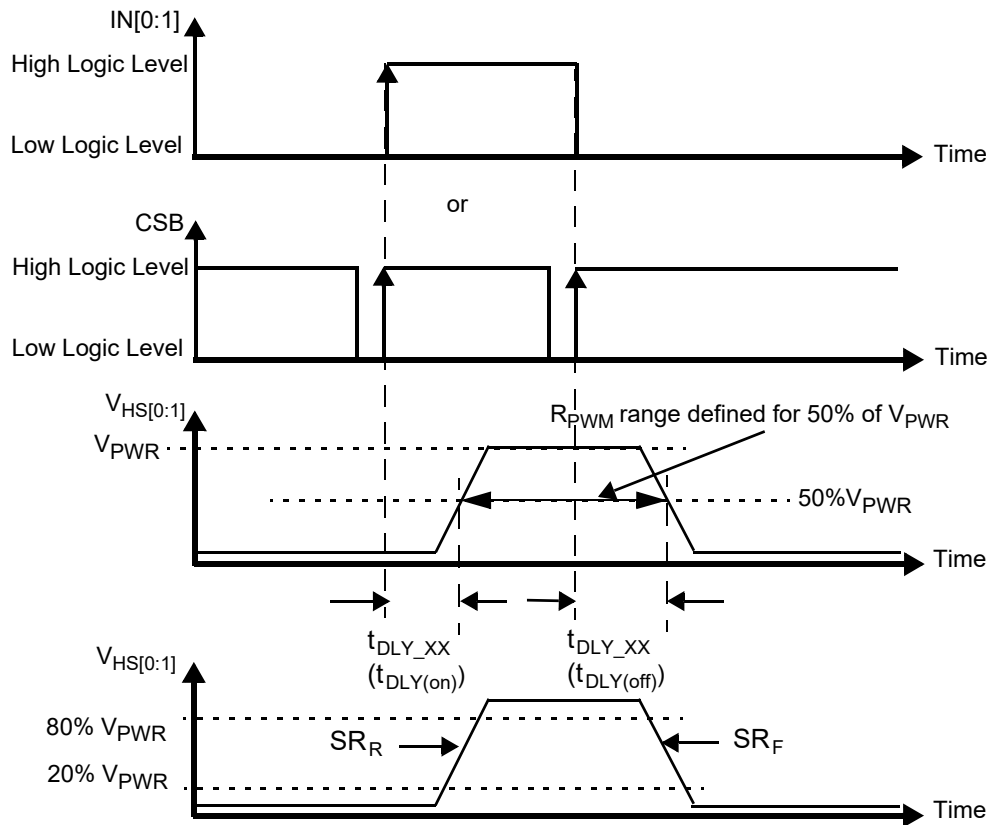
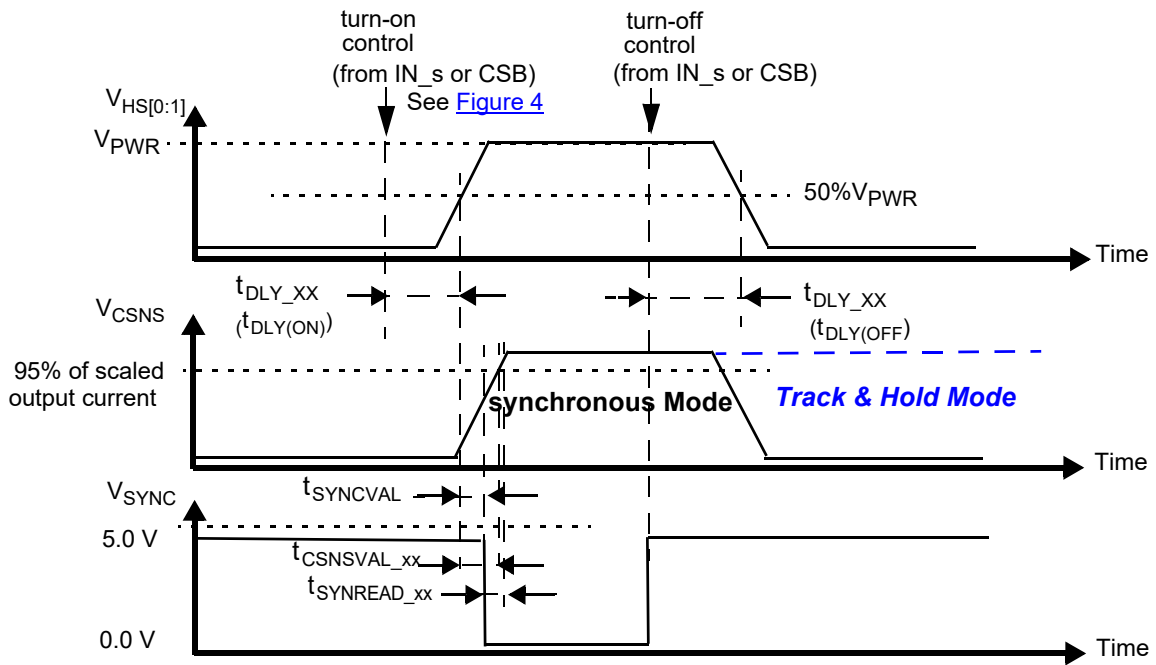

Figure 4. Output voltage slew rate and delay
Figure 9. Synchronous and Track & Hold current sensing modes: associated delay and settling times
- Rising and Falling edge slew rates specified for a 20 % to 80 % voltage variation on a 10.0  $\Omega$  resistive load (see Figure 4).
- Time required to switch off the channel after detection of overtemperature (OT), overcurrent (OC), SC or UV error (time measured between start of the negative edge on the FSB pin and the falling edge on the output voltage until  $V(HS[0:1]) = 50\%$  of  $V_{PWR}$ ).
- Settling time (=  $t_{CSNSVAL\_XX}$ ), SYNC output signal delay (=  $t_{SYNVAL\_XX}$ ) and Read-out delay (=  $t_{SYNREAD\_XX}$ ) are defined for a stepped load current ( $100\text{ mA} < I(\text{LOAD}) < I_{OCLX A}$  FOR  $CSNS\_RATIO\_S = 1$ , AND  $300\text{ mA} < I(\text{LOAD}) < I_{OCLX A\_0}$  FOR  $CSNS\_RATIO\_S = 0$ ). (see Figure 9 and Output current monitoring \(CSNS\)).
To synchronize current sensing with an external process, the SYNC signal can be connected to a digital input of an external MCU. SYNC is asserted logic low when the current sense signal is accurate and ready to be read. The current sense signal on the CSNS pin has the specified accuracy  $t_{SYNREAD\_XX}$  seconds after the falling edge on the SYNC pin (Figure 9) and remains valid until a rising edge is generated. The rising edge that is generated by the SYNC pin at the turn-OFF instant (internal or external) may also be used to implement synchronization with the external MCU. Parameter  $t_{SYNVAL\_XX}$  is defined as the time between the instant at the middle of the output-voltage rising edge ( $HS[0:1] = 50\%$  of  $V_{PWR}$ ), and the instant at which the voltage on the SYNC-pin drops below 0.4 V ( $V_{SOL}$ ). The SYNC pins of different devices can be connected together to save micro-controller input channels. However, in this configuration, the CSNS function of only one device should be active at a time. Otherwise, the MCU does not determine the origin of the SYNC signal. The SYNC pin is open drain and requires an external pull-up resistor to  $V_{DD}$ .